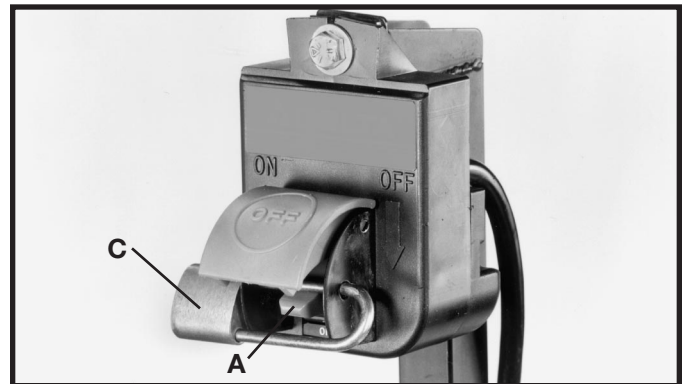

Fig. 33
**IMPORTANT:** When the tool is not in use, the switch should be locked in the "OFF" position to prevent unauthorized use. Insert the shank of padlock (C) Fig. 33, through the holes in the switch plate to lock the on/off switch trigger (A).